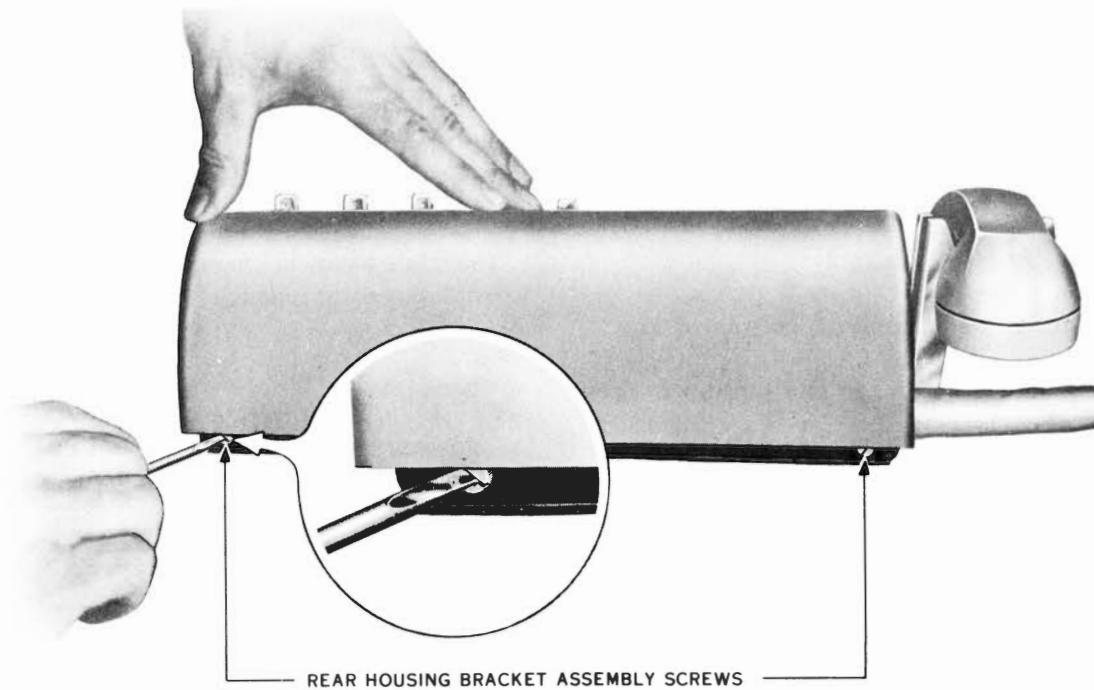

Fig. 3 — Method of Removing Housing
3.03 To remove housing (Fig. 3):